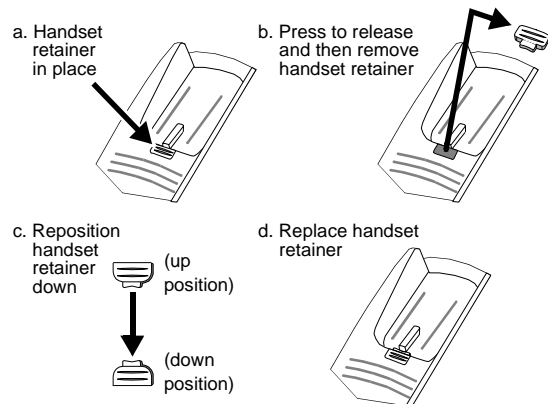

Figure 5. Reversing the Handset Hook
1. You must reverse the handset tab (which holds the handset when you hang up). See Figure 5.